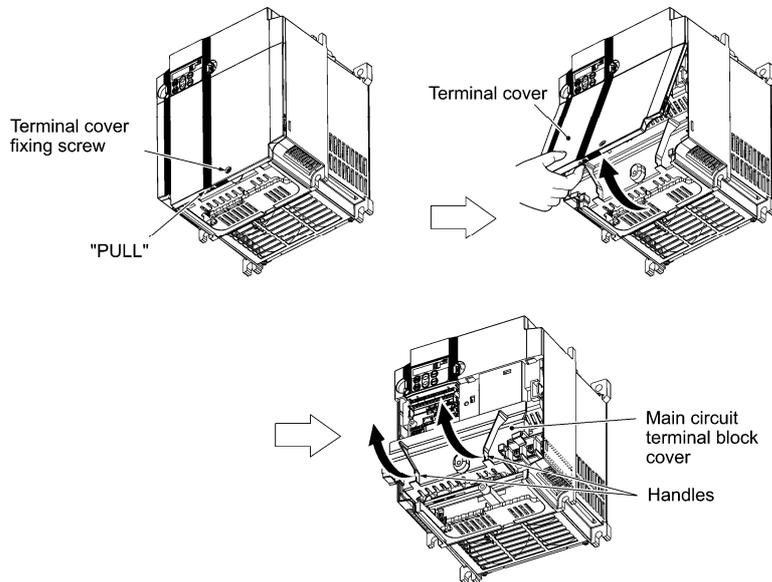

Figure 4.4 Removing the Covers (For Inverters with a Capacity of 11 and 15 kW)
**(3) For inverters with a capacity of 11 and 15 kW**
- ① To remove the terminal cover, first loosen the terminal cover fixing screw, put your finger in the dimple of the terminal cover (labelled "PULL"), and then pull it up towards you.
- ② To remove the main circuit terminal block cover, hold the handles on the both sides of the main circuit terminal block cover, and pull it up (Refer to figure 4.4)